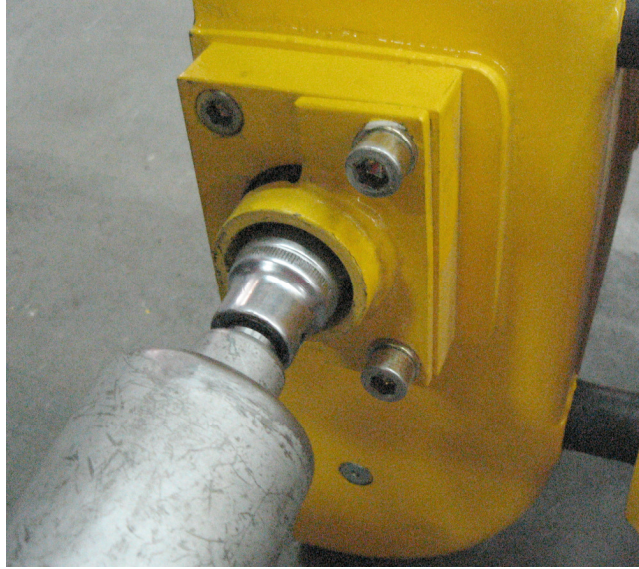

Figure 4
2. Unfasten the drum arbor shaft by using an air gun. Turn clockwise to unfasten. (See Figure 4)